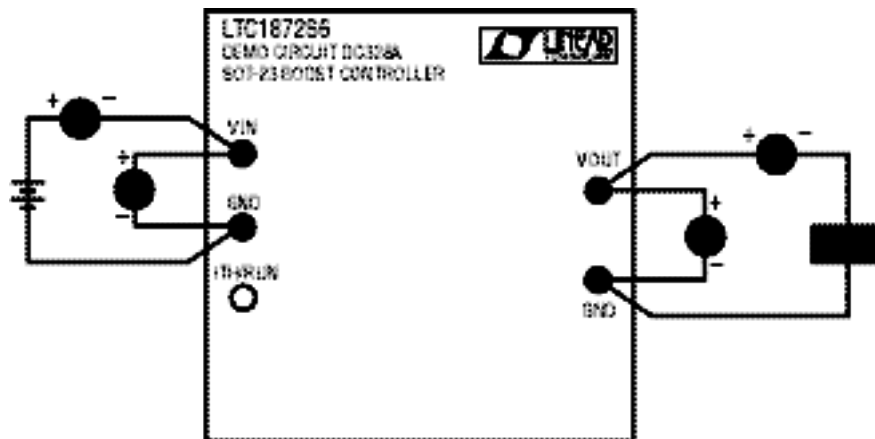

Figure 1. DC328A Test and Measurement Set-up
3. Connect true-RMS meters, as shown in Figure 1.